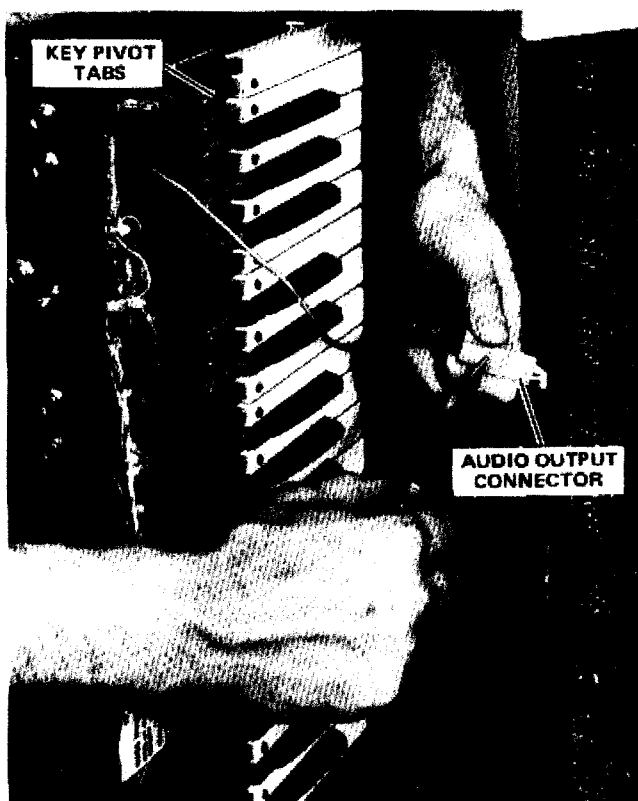

FIGURE 3-2 UNPLUGGING AUDIO OUTPUT CONNECTOR
a) Pull up on the back of the case, slide the case forward to clear the key tips and lift off. Partially open the case and pry apart the 3-pin audio output cable connector. Note how cable and connector lie atop the main PC board so as not to interfere with the tails of the keys. (See Figure 3-2)